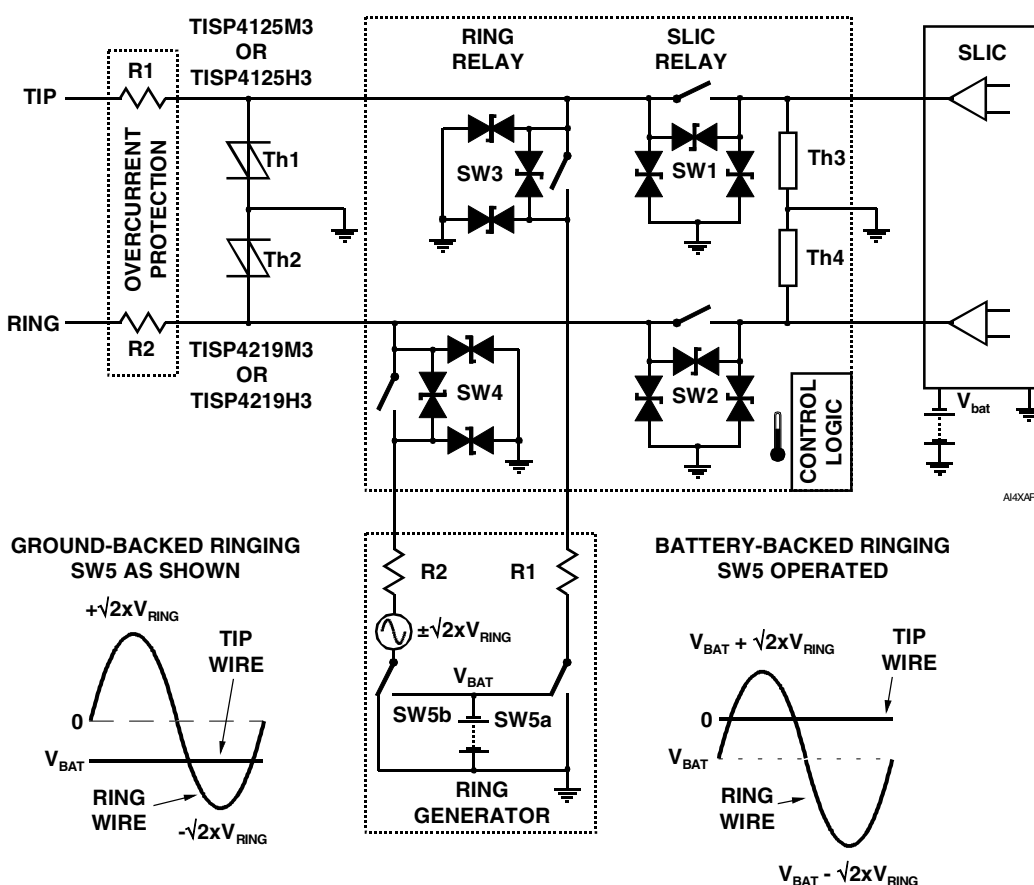

Figure 13. LCAS shown with switch breakdown limits
Figure 13 shows the LCAS switch voltage ratings as breakdown diodes, which must not be allowed to conduct. Each switch has three diodes; one between poles and the other two from each pole to ground. At 25 °C, switches SW1 through to SW3 have breakdown diode voltages of ± 320 V. Switch SW4 has breakdown diode voltage values of ± 465 V for the one between poles and ± 320 V for the two diodes connected to
- ground-backed and battery-backed ringing configurations (see Figure 13).